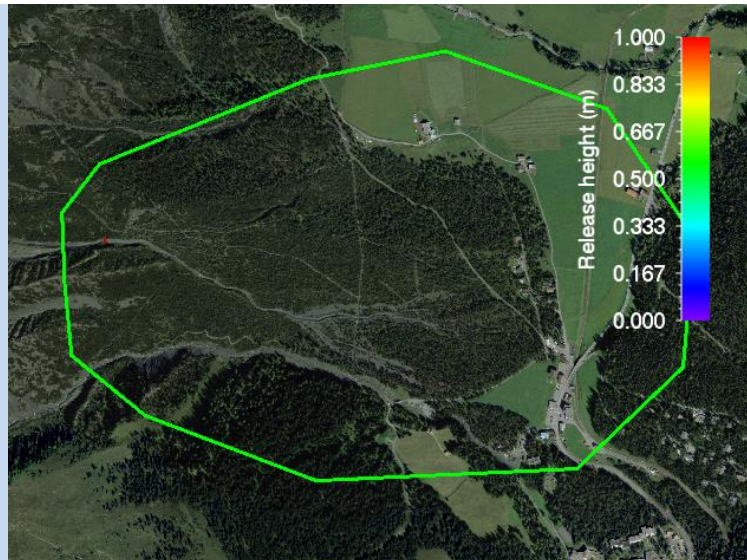

Figure 3-46: Input file with a rough calculation domain
- Draw a rough calculation domain as explained above, see Figure 3-46 below.